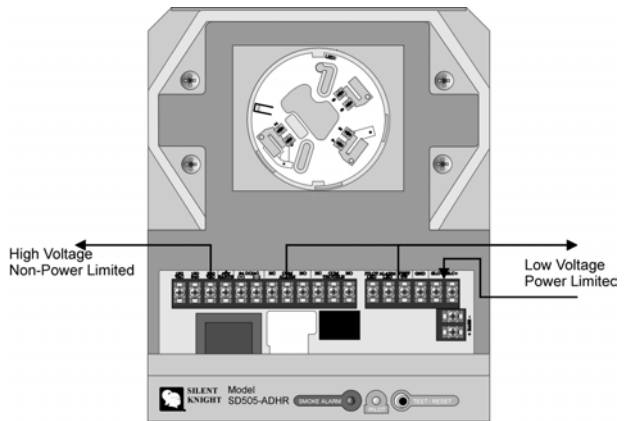

**Figure 2: Air Sampling Verification**
9. Verify proper air sampling by using a differential pressure gauge (Dwyer Model 4000 or equivalent). See Figure 2 for connections.